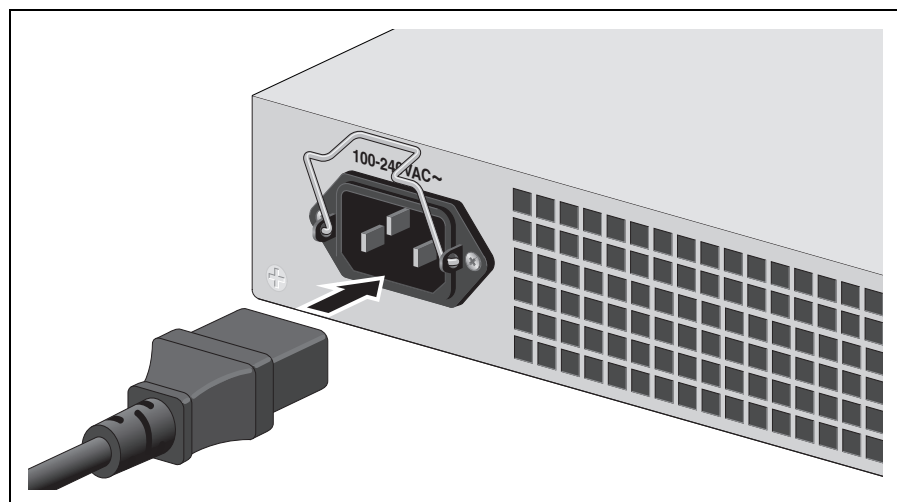

Figure 46. Connecting the AC Power Cord
2. Plug the power cord into the AC power connector on the rear panel of the unit (see Figure 46).